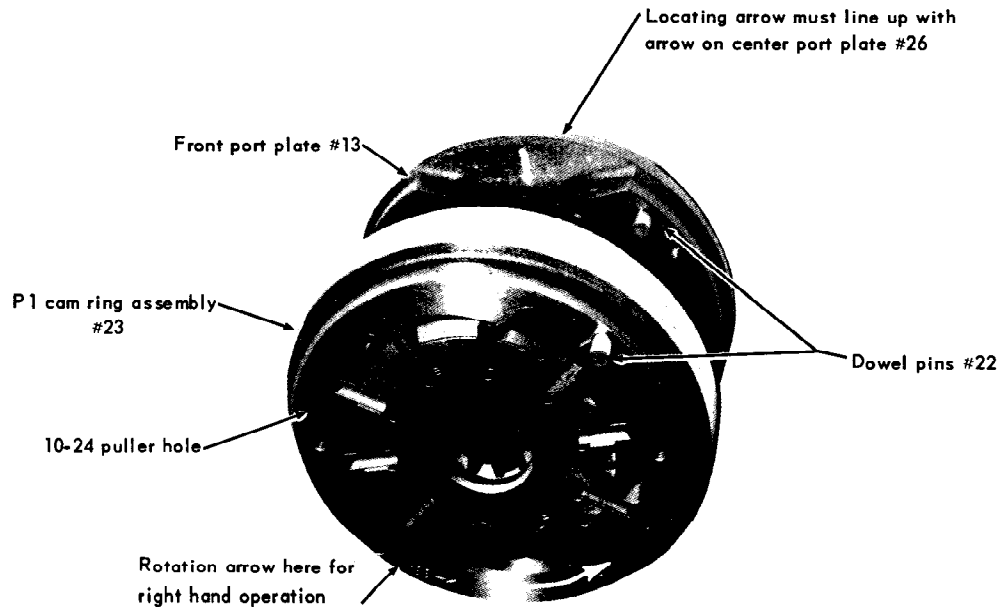
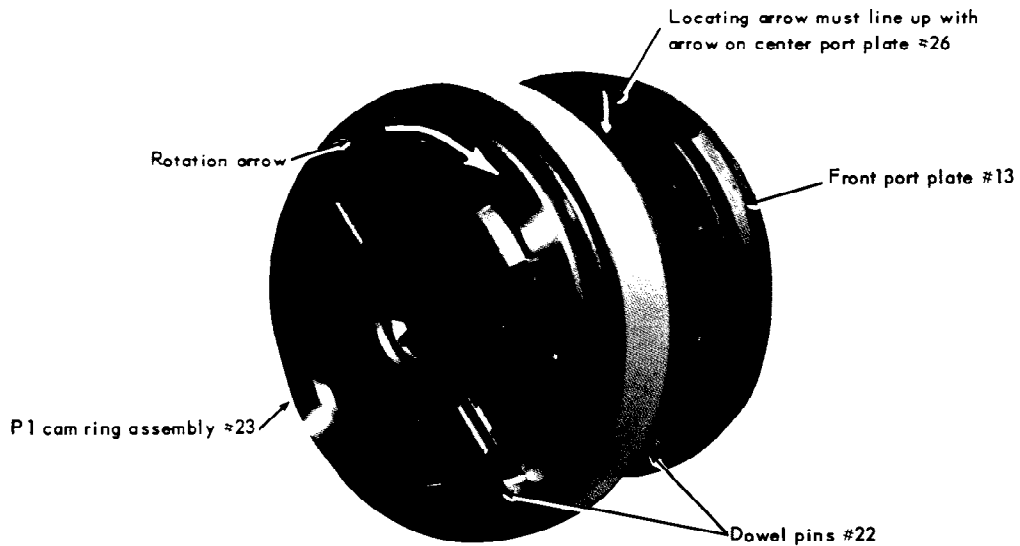
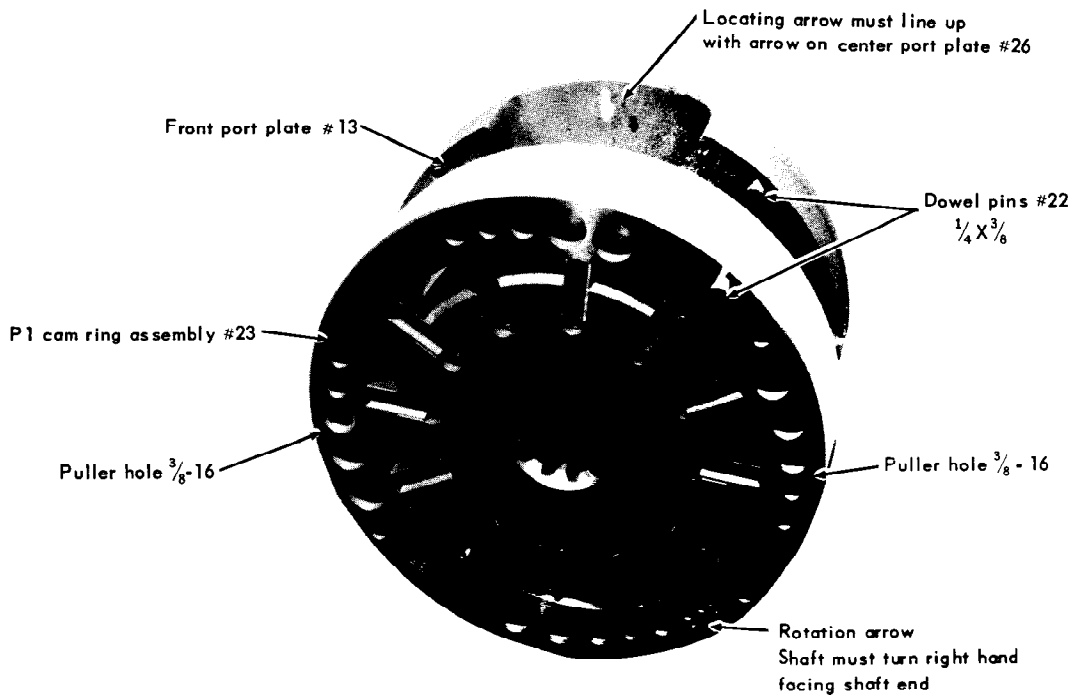

Fig. 4 Above parts must be assembled in this manner in the mounting cap and over the pump shaft for right hand operation.
Fig. 5 Above parts must be assembled in this manner in the mounting cap and over the pump shaft for left hand operation.
Fig. 6 Above parts must be assembled in this manner in the mounting cap and over the pump shaft for right hand operation.
8. Install "O" rings (12) and (15) in mounting cap (11). Place heavy grease on both "O" rings. Install "O" ring (14) on front port plate (13). Place heavy grease on "O" ring. Position mounting cap and shaft assembly on work bench with coupling end of shaft extended down.
9. Place wavy washer spring (16) against retaining ring (17) and insert front port plate (13) into the mounting cap (11) taking care not to damage the "O" rings. Do not press port plate into position until porting is determined. The arrow on the front port plate (13) must line up with the arrow on the center port plate (26). For proper assembly of TDC pumps see Fig. 4 for right hand operation and Fig. 5 for left hand operation. For proper assembly of TEC & TED see Fig. 6 for right hand operation and Fig. 7 for left hand operation.
10. Insert 1 dowel pin of (22) in proper hole in front port plate (13). Check Fig. 4, 5, 6 or 7 again and place cam ring assembly (23) over pump shaft and over dowel pin (22), Place other dowel pin (22) in cam ring directly over the pin in the front port plate.
11. Place the center housing (28) and the attached parts over the splined shaft. Line up the arrow that is visible thru the large inlet port with the arrow on the center port plate. Dowel pin (22) should be seated in the proper hole in port plate (26) when the arrows match.
12. Rotate the center housing (28), cam ring assembly (23) and front port plate (13) on the mounting cap (11) until the pressure outlet in (11) is in position for the desired porting. Install bolts (10) and tighten evenly. Torque to 130 ft. lbs on the TDC and 230 ft. lbs on the TEC.
13. Check Fig. 4 or 5 and insert 1 of dowel pin (8) in the proper hole in the small side of the center port plate.
Thread two 10-24 screws into P2 cam ring assembly (9) and place over the shaft and on dowel pin (8) as indicated in Fig. 4 or 5.